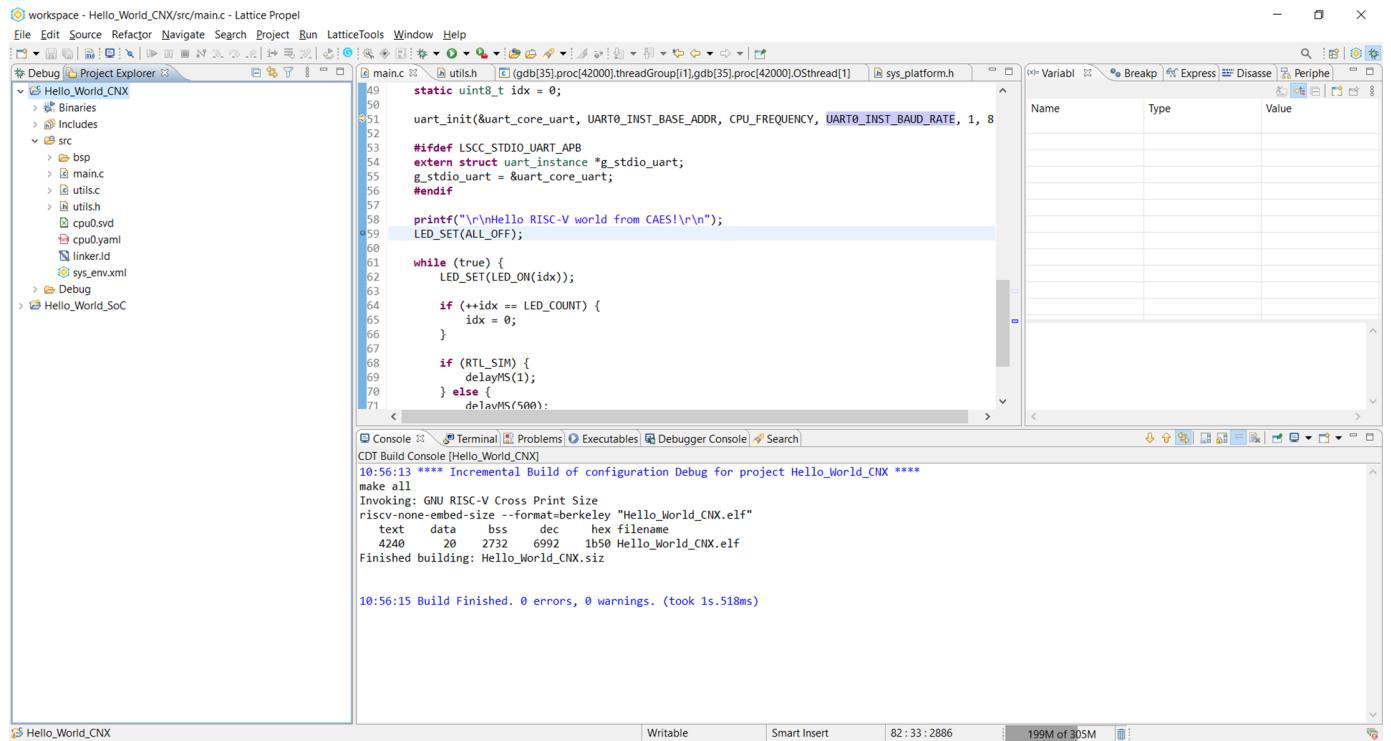

Figure 12: Generated Hello World Project
9. The template creates the source code for the "Hello World" project and the **BSP** based on the **RISC-V SoC** design, see **Figure 12**.